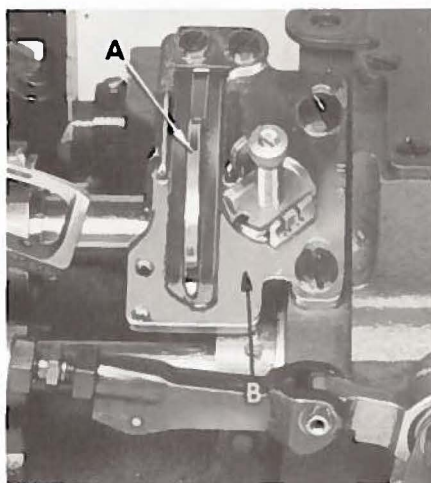

Fig. 14
The looper thread take-up (A, Fig. 14) is not spotted on the main shaft and, consequently, can be set to compensate for varying conditions. It is set correctly when the looper thread is just cast off the highest lobe of the take-up when the point of the left needle is clearly visible below the underside of the looper. The cast-off plate assembly (B) is adjustable, and its setting determines the amount of thread pulled off by the take-up. Moving the cast-off plate assembly to the top of the screw slots causes more thread to be pulled from the cones, and moving the cast-off plate assembly to the bottom of the screw slots causes less thread to be pulled. The cast-off plate assembly is set correctly when the looper thread just becomes taut as the looper reaches its extreme position to the left.